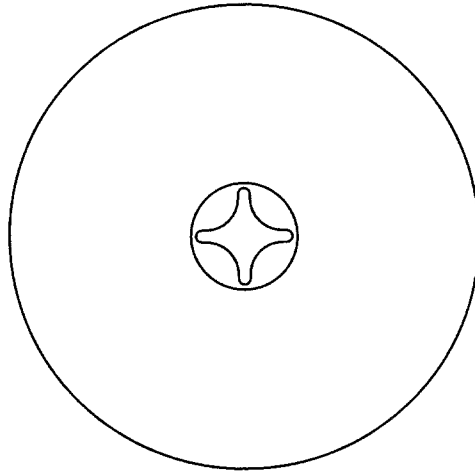

Fig. 2.1
Fig. 2.1 is a diagram of a similar section.
- (a) (i) Indicate by drawing a bracket **on Fig. 2.1** the region of the root that contains starch grains.